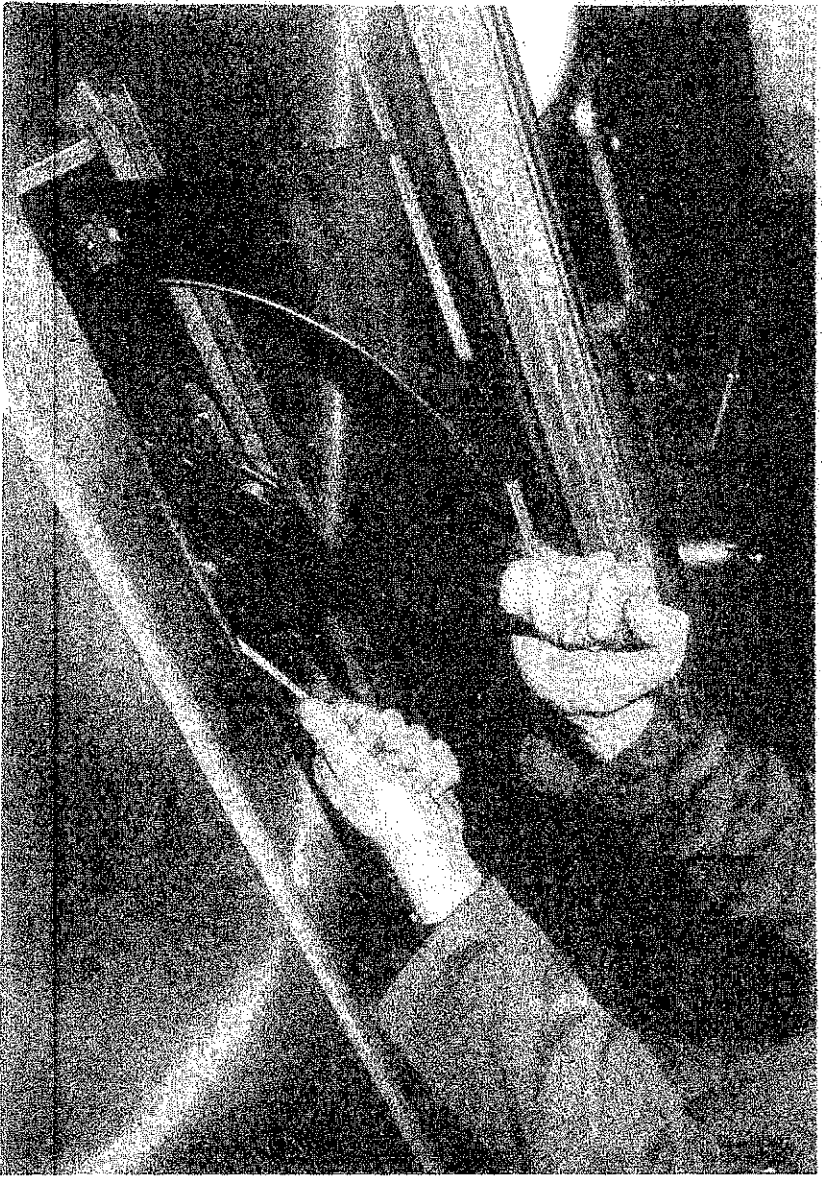

FIG.13
- e) Locate 8mm allen key (supplied) in main saw spindle as shown FIG. 13, then remove spindle nut (left hand thread) with spanner (supplied) and front saw flange.